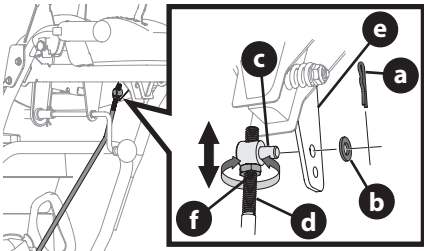

Figure 56
- Remove cotter pin (a) and washer (b) from adjustment ferrule (c) on shift rod (d) and pull it out from shift lever (e) (Figure 56).
4. If necessary, loosen the jam nut (f) and rotate the ferrule up or down on the shift rod until the ferrule aligns with the upper hole in the shift lever (Figure 56). Tighten jam nut.